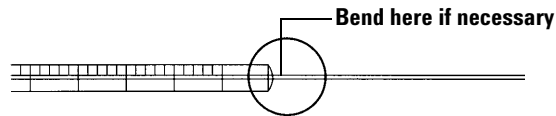

Figure 36 Inspecting the syringe
- 1 Roll the syringe on the edge of a clean flat surface. If the tip of the needle moves in a circle, straighten the shaft by bending it slightly near where it connects to the syringe barrel and check it again (Figure 36).